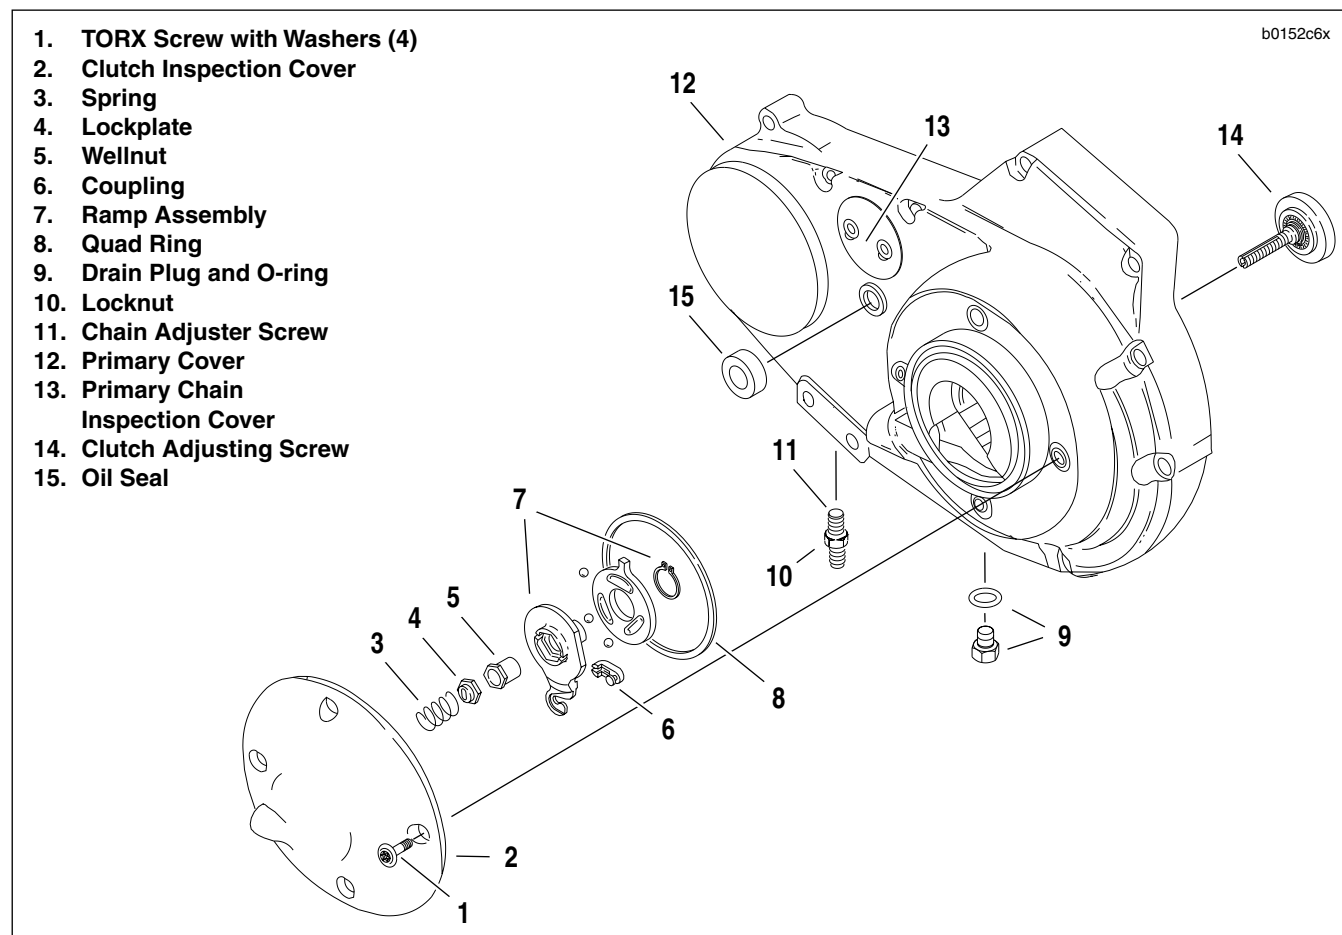
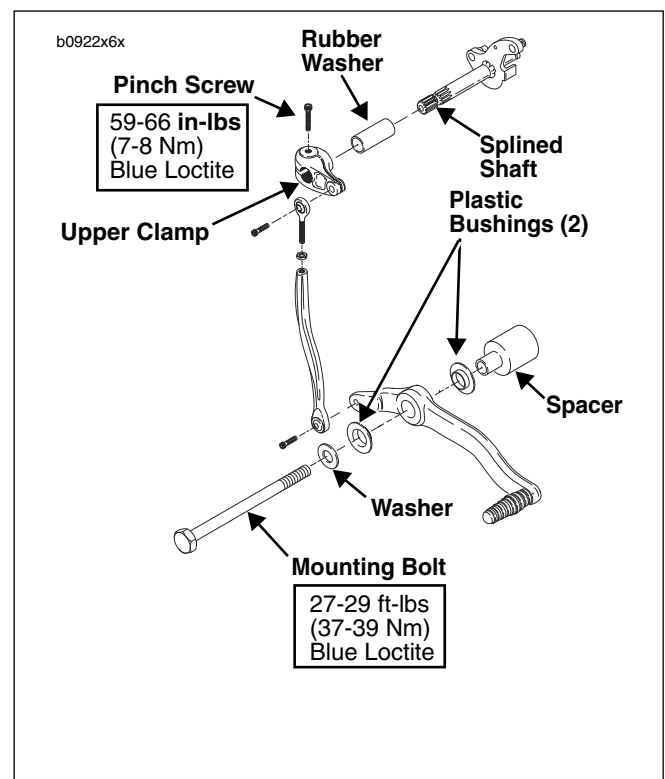

Figure 6-1. Primary Cover
Figure 6-5. Shifter Lever
4. See Figure 6-1. Place a drain pan under the engine. Remove drain plug (9) and drain lubricant from primary drive.
4. See Figure 6-1. Install **new** shifter lever oil seal (15).
5. Fit coupling (6) over cable end with rounded side inboard, the ramp connector button outboard. With retaining ring side of ramp assembly facing inward, place hook of ramp (7) around coupling button and rotate assembly counterclockwise until tang on inner ramp fits in slot of primary cover.
6. Thread wellnut (5) on adjusting screw (14) until slot of screw is accessible with a screwdriver. Fit wellnut hex into recess of outer ramp and turn adjusting screw counterclockwise.
10. See Figure 6-5. Apply LOCTITE THREADLOCKER 243 (Blue) to shift lever mounting bolt.